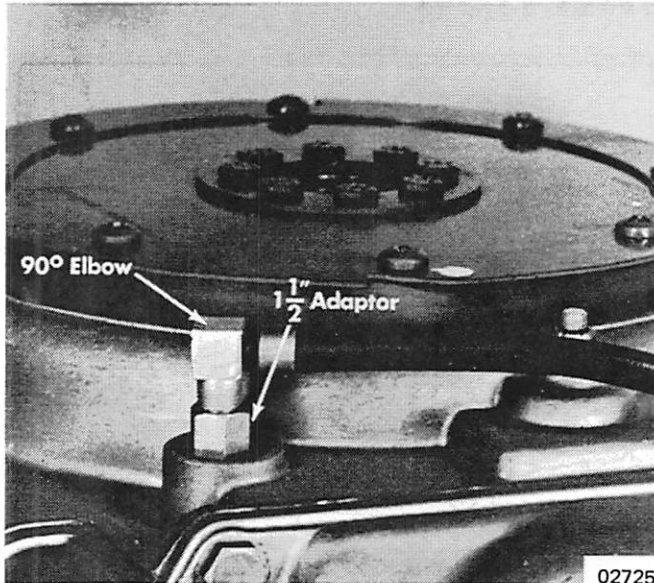

Figure 1. Hose Installed on Cylinder Block
3. Coat threads of 1½" (38.1mm) long adaptor with Gasket Sealer (C-92-28804) and install adaptor into threaded hole in top of cylinder block. (Figure 1)